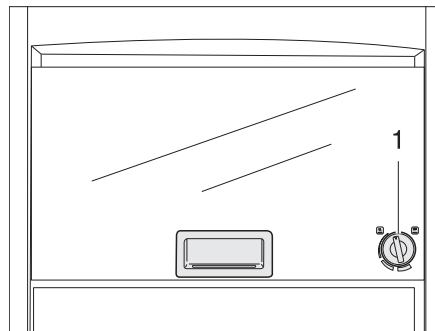

Fig. 261 Gas oven (Dometic)
- Gently press the control knob (Fig. 261,1) and turn left to any position.
- Turn the control knob (Fig. 261,1) to "O". The flame fades.